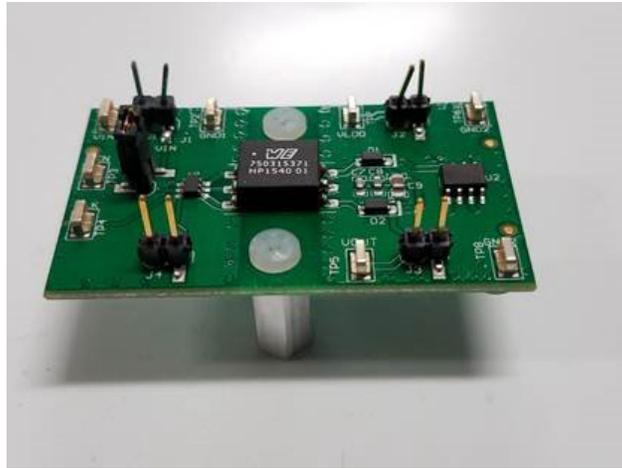
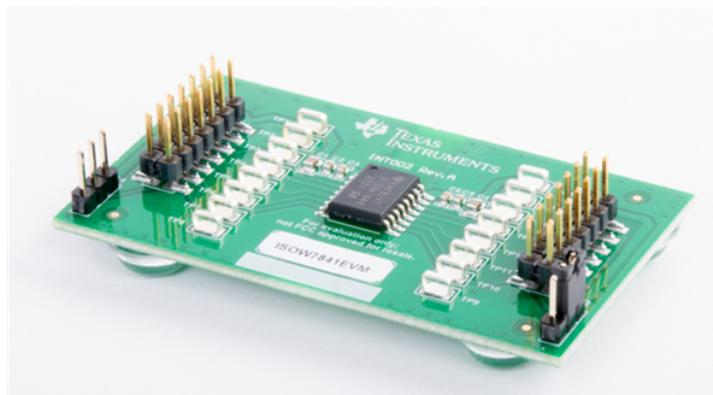

Figure 3. Discrete Solution for Isolated Power with a 4.10mm-thick Isolation Transformer
Figure 4. ISOW7841 Evaluation Module with Planar Transformers in a 2.65mm-thick 16-Pin SOIC Package
- **Board height.** An external transformer can be bulky and often much thicker than small-outline integrated circuit (SOIC) packages. As Figure 3 shows, the discrete solution uses a 4.10-mm thick isolation transformer. The integrated solution with planar transformers in a 16-pin SOIC package (shown in Figure 4) has a thickness of 2.65 mm, which is about 35% smaller in height compared to the discrete transformer. When you want to stack multiple boards in space-constrained applications, the smaller height of the integrated solution will come in handy.